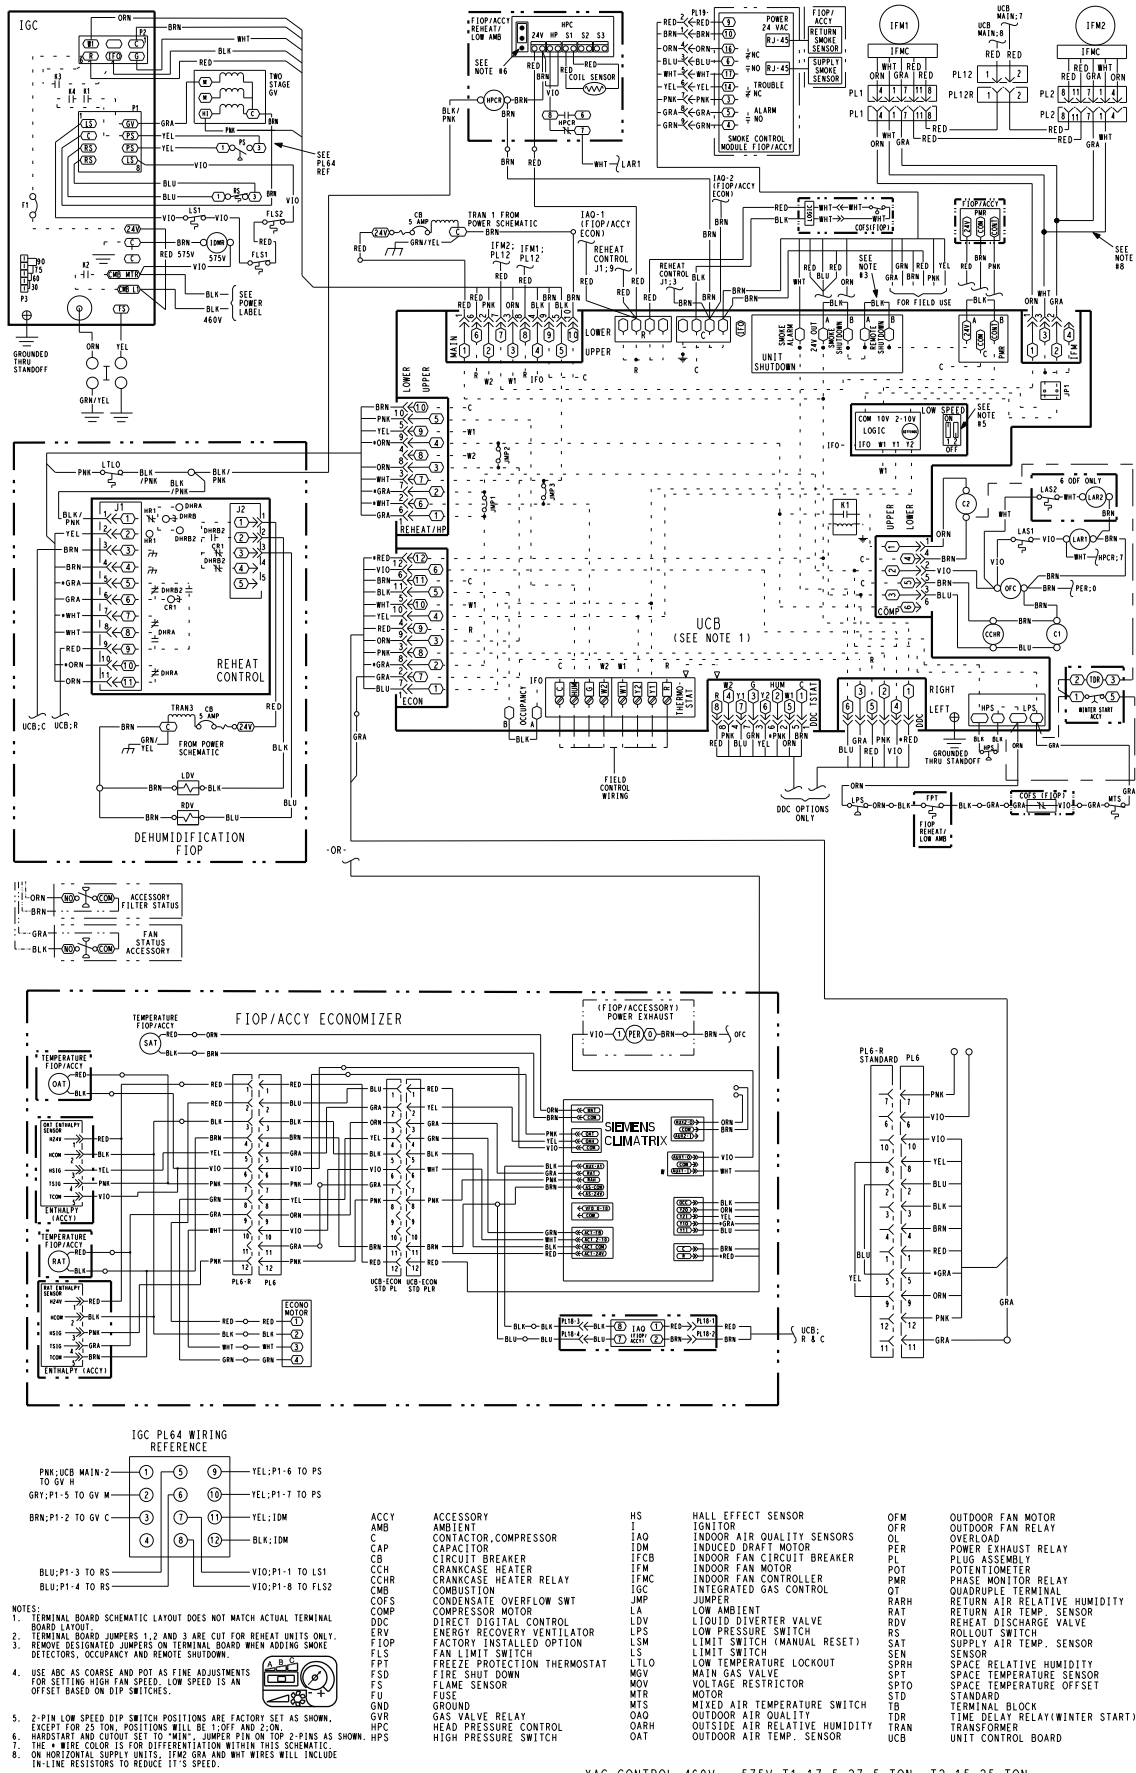

Fig. 28 — Typical EconomizerONE Wiring Diagram
1. Install POL 224 controller (with harnesses attached) in unit top left of control box. See Fig. 28 for unit wiring diagram.
6. Connect the brown and red wires from the controller harness to the UCB. (See Fig. 28 for location.)
7. Inside the control box section, locate the pink and violet wires from the PL6 harness and connect them to the violet and pink wires from the controller harness. (See Fig. 28.)
The optional enthalpy control sensor (P/N: HH57LW001) communicates with the POL 224 economizer controller using the 5-wire harness, 48TC005213. The HH57LW001 sensor can be used as a single outside air enthalpy, a differential return enthalpy, or a differential return temperature sensor. Refer to Fig. 28 for wiring the HH57LW001 enthalpy sensor for each option. See Fig. 31 and Table 6 on page 14 to locate the wiring terminals for each enthalpy control sensor.
If installing the optional HH57LW001 enthalpy sensor, then the HH79NZ039 dry bulb outside air sensor must first be removed. Wire sensor to harness 48TC005213 and the (5) wires from the harness to the EconomizerONE harness in the return air chamber. Harness 48TC005213 has a 5-pin plug that connects directly to the HH57LW001 enthalpy sensor. Refer to Fig. 28 for wiring connections. See Fig. 31 and Table 6.